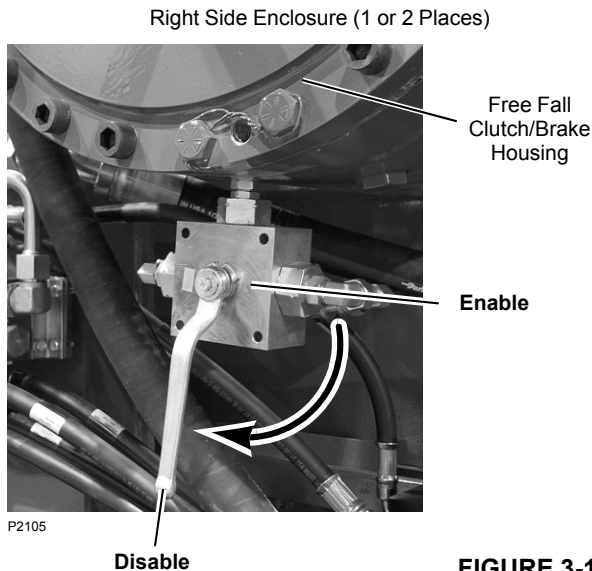

FIGURE 3-15
1. Disable free fall for rear drum by moving valve handle to DISABLE (down) position as shown in Figure 3-15. To enable free fall when luffing jib attachment is removed, move valve handle to ENABLE (up) position.
1. If equipped with free fall disable valves, handles must be in ENABLE position (see Figure 3-15). **EXCEPTION: when the rear drum is configured for operation with luffing jib.**